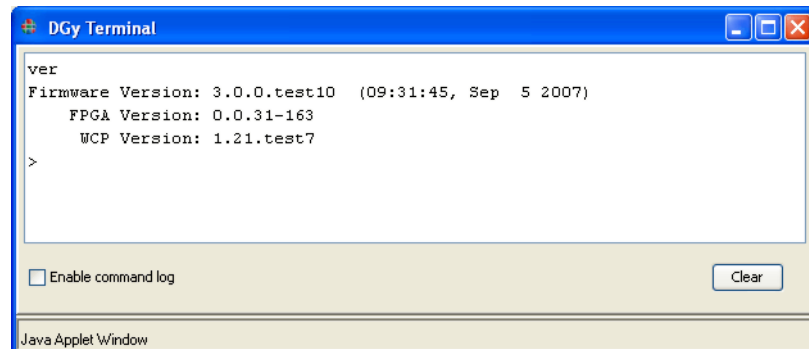

Figure 3-23 Terminal Window
- ~ Click on the **Terminal** button at the bottom of the **Configuration Page**. A **Terminal** window similar to that shown in Figure 3-23 will appear.
▲ **Example:** To test the terminal operation, type `ver` at the terminal command prompt and press **ENTER**. The terminal should respond with a message similar to that shown in Figure 3-23.